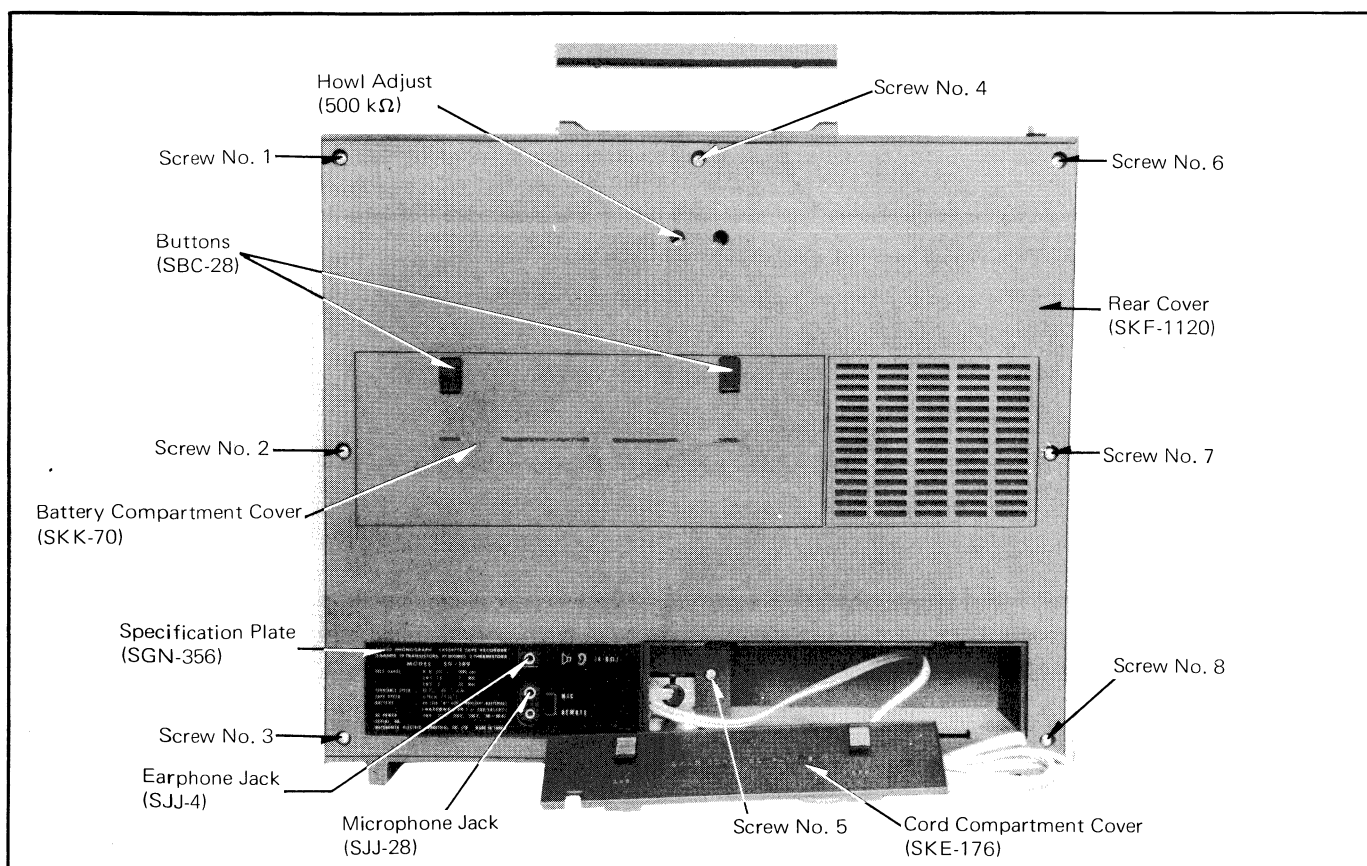

Fig. 2 REAR VIEW
To Remove Chassis (Refer to Figs. 2, 9 & 10)
1. Remove eight (8) rear cover mounting screws, Nos. 1-8 as shown in Fig. 2 on page 2.
To Remove Speaker (Refer to Figs. 2 & 10)